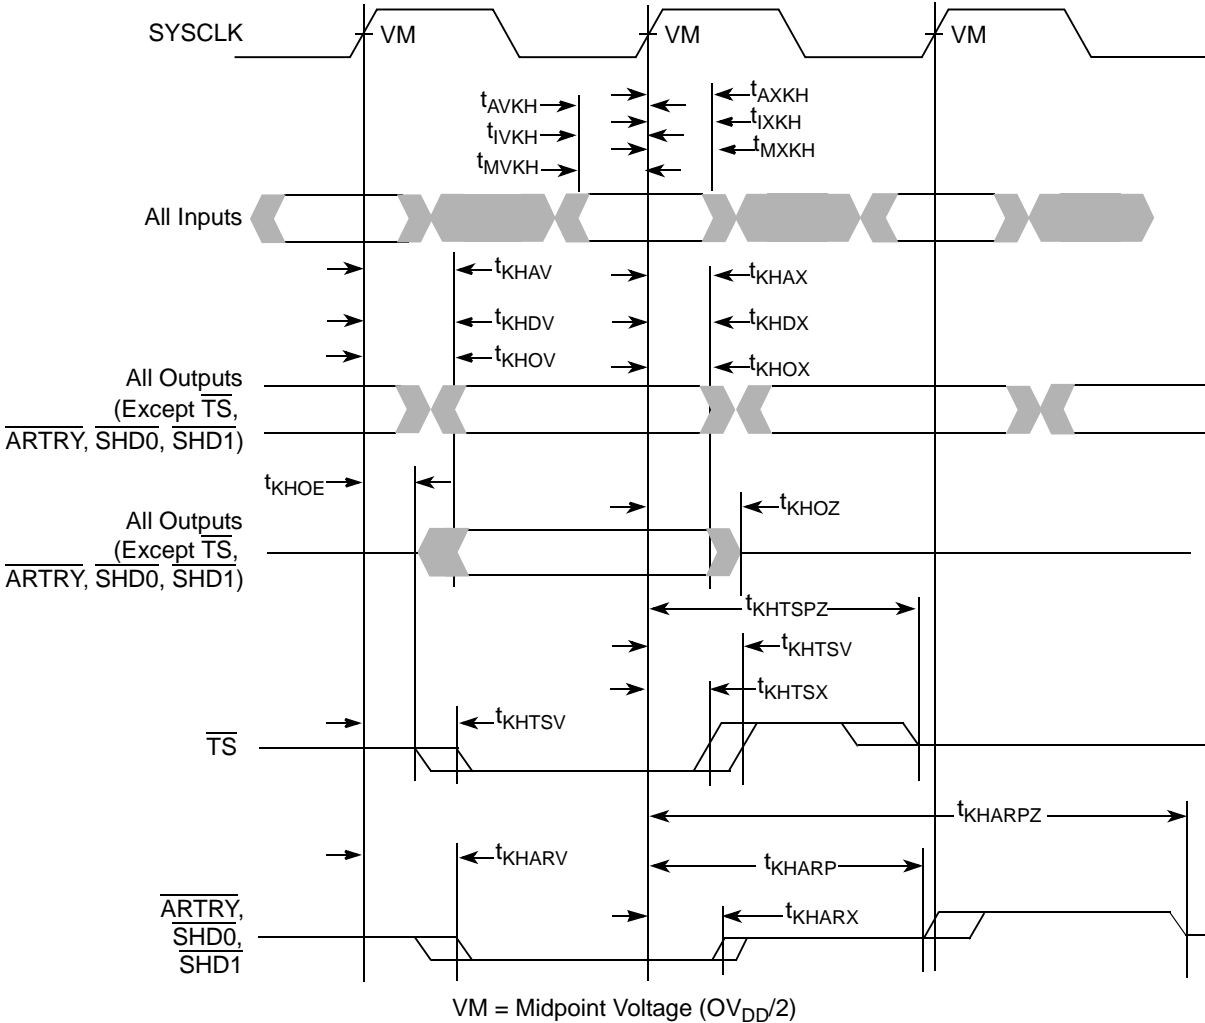

Figure 6. Input/Output Timing Diagram
Table 8 provides the clock AC timing specifications as defined in Figure 6 and represents the tested operating frequencies of the devices. The maximum system bus frequency,  $f_{SYSCLK}$ , given in Table 8 is considered a practical maximum in a typical single-processor system. The actual maximum SYSCLK frequency for any application of the MPC7457 will be a function of the AC timings of the MPC7457, the AC timings for the system controller, bus loading, printed-circuit board topology, trace lengths, and so forth, and may be less than the value given in Table 8.
- The symbology used for timing specifications herein follows the pattern of  $t_{(\text{signal})(\text{state})(\text{reference})(\text{state})}$  for inputs and  $t_{(\text{reference})(\text{state})(\text{signal})(\text{state})}$  for outputs. For example,  $t_{\text{VKH}}$  symbolizes the time input signals (I) reach the valid state (V) relative to the SYSCLK reference (K) going to the high (H) state or input setup time. And  $t_{\text{KHOV}}$  symbolizes the time from SYSCLK(K) going high (H) until outputs (O) are valid (V) or output valid time. Input hold time can be read as the time that the input signal (I) went invalid (X) with respect to the rising clock edge (KH) (note the position of the reference and its state for inputs) and output hold time can be read as the time from the rising edge (KH) until the output went invalid (OX).
- According to the bus protocol,  $\overline{\text{TS}}$  is driven only by the currently active bus master. It is asserted low then precharged high before returning to high impedance as shown in Figure 6. The nominal precharge width for  $\overline{\text{TS}}$  is  $0.5 \times t_{\text{SYSCLK}}$ , that is, less than the minimum  $t_{\text{SYSCLK}}$  period, to ensure that another master asserting  $\overline{\text{TS}}$  on the following clock will not contend with the precharge. Output valid and output hold timing is tested for the signal asserted. Output valid time is tested for precharge. The high-impedance behavior is guaranteed by design.
- According to the bus protocol,  $\overline{\text{ARTRY}}$  can be driven by multiple bus masters through the clock period immediately following AACK. Bus contention is not an issue because any master asserting  $\overline{\text{ARTRY}}$  will be driving it low. Any master asserting it low in the first clock following AACK will then go to high impedance for one clock before precharging it high during the second cycle after the assertion of AACK. The nominal precharge width for  $\overline{\text{ARTRY}}$  is  $1.0 t_{\text{SYSCLK}}$ ; that is, it should be high impedance as shown in Figure 6 before the first opportunity for another master to assert  $\overline{\text{ARTRY}}$ . Output valid and output hold timing is tested for the signal asserted. The high-impedance behavior is guaranteed by design.
Figure 6 provides the input/output timing diagram for the MPC7457.